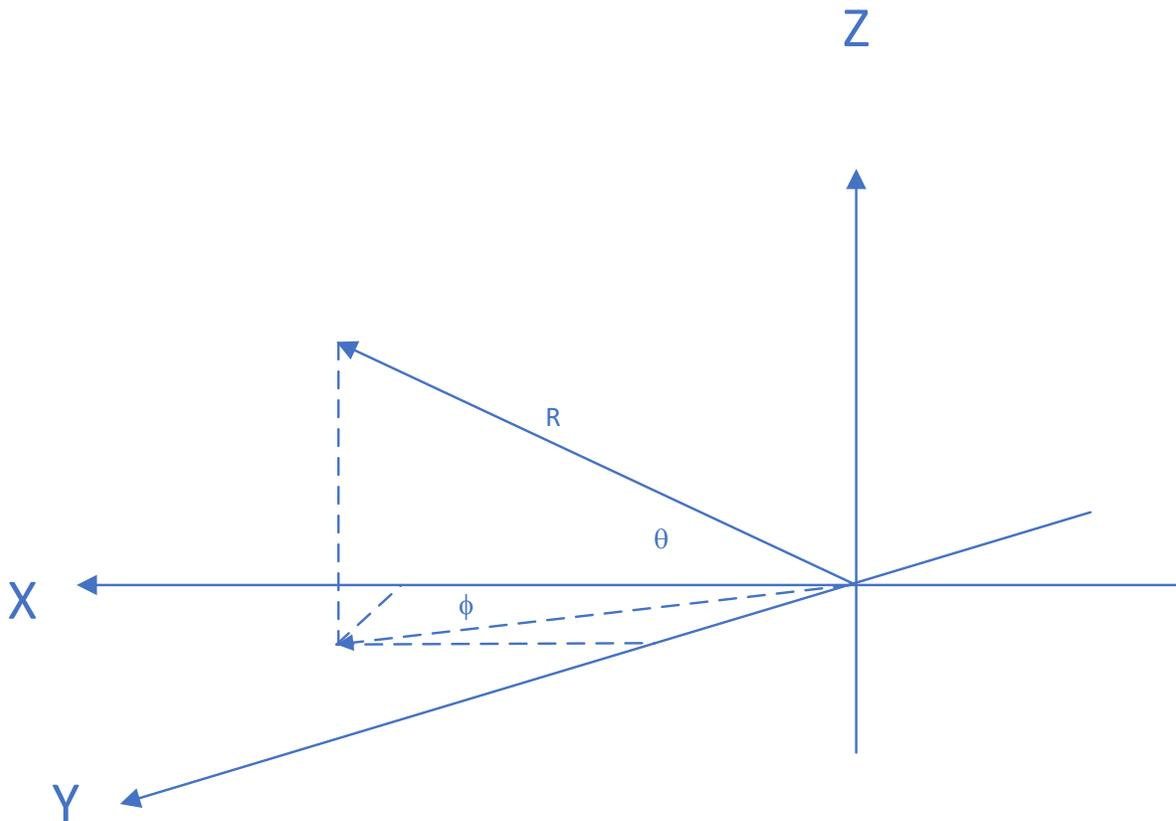

Figure 5-1 Vector component definition
Sets or gets the value of  $\phi$  (see Fig. 5-1).
Sets or get the value of  $\theta$  (see Fig. 5-1).
**Parameters:**     {R|PHI|THETA} See Fig. 5-1 for an definition of the parameters